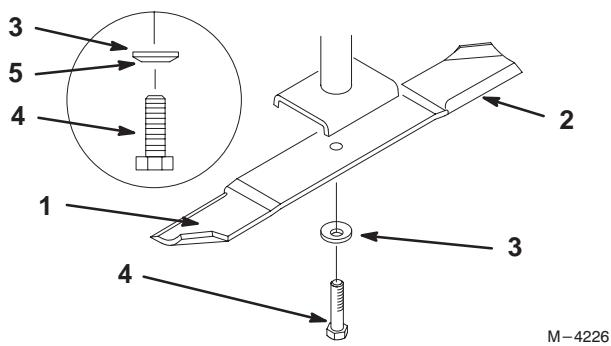

Figure 20
1. Hold the blade end using a rag or thickly-padded glove. Remove the blade bolt, spring disk and blade from the spindle shaft (Fig. 20).
1. Install the blade onto the spindle shaft (Fig. 20).
2. Install the spring disk and blade bolt. The spring disk cone must be installed toward the bolt head. (Fig. 20). **Torque the blade bolt to 85–110 ft-lb (115–150 N·m).**